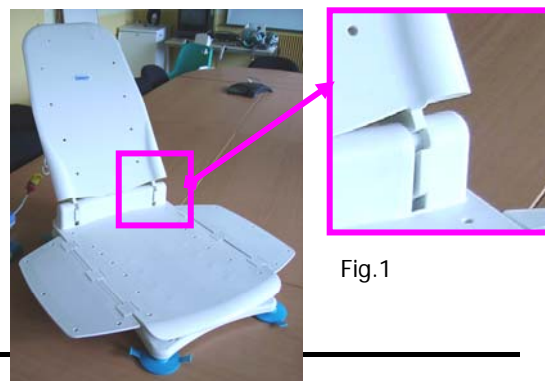

Fig.1
- During assembly, use or cleaning, be careful not to put your fingers between any moving parts, especially around the backrest (see Fig.1).